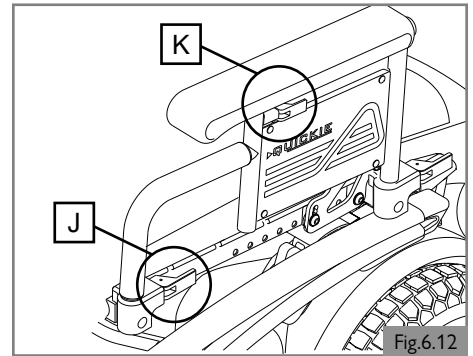

Fig.6.12
6.8 Dual-post height adjustable armrest (Option) (Fig 6.12)